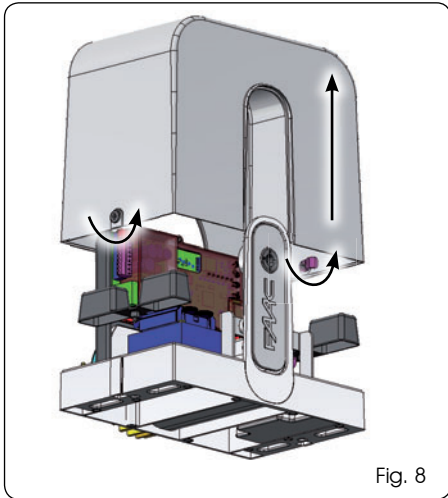

Fig. 8
1. Remove the cover case by turning the clips through 90° and raising the cover (Fig. 8).